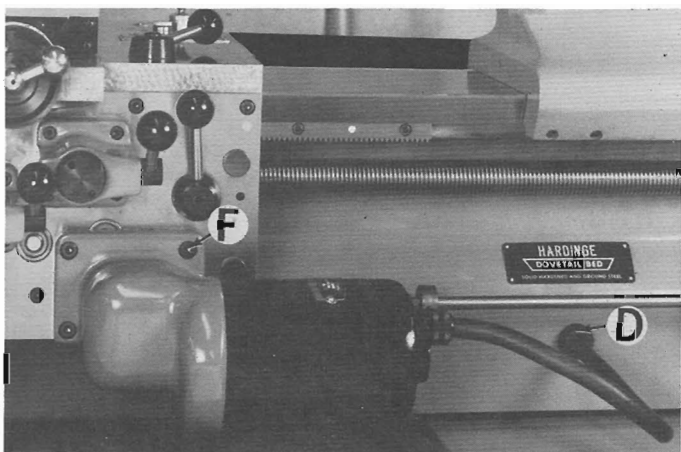

Figure 91 — Power Feed Drive
5. Pull grommet "D", Figure 91, and cable out through bed. Do not pull against cable end attached to power feed motor.
7. Remove three screws "F", Figure 91, and remove power feed assembly from apron.